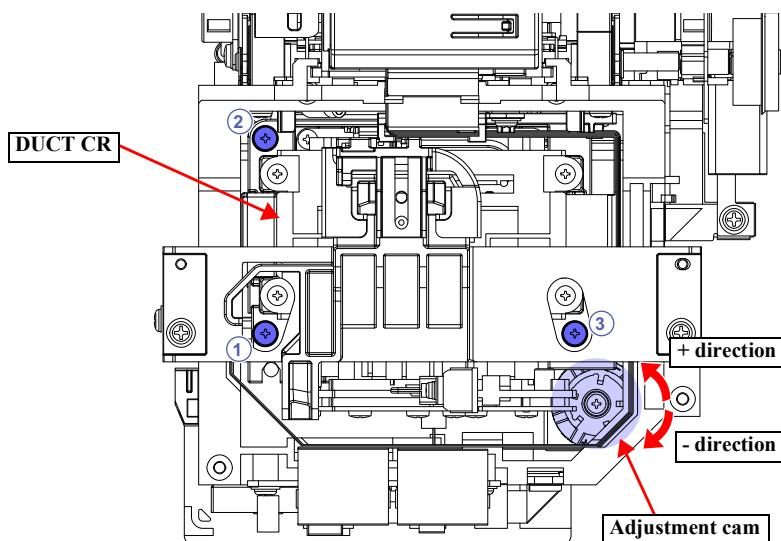

Figure 4-43. Correcting the Head Inclination
9. Loosen the three screws that secure the head holder one turn in order to (3) > (2) > (1).
10. Turn the adjustment knob to correct the head inclination. See Figure 4-43 for which direction to move the knob.